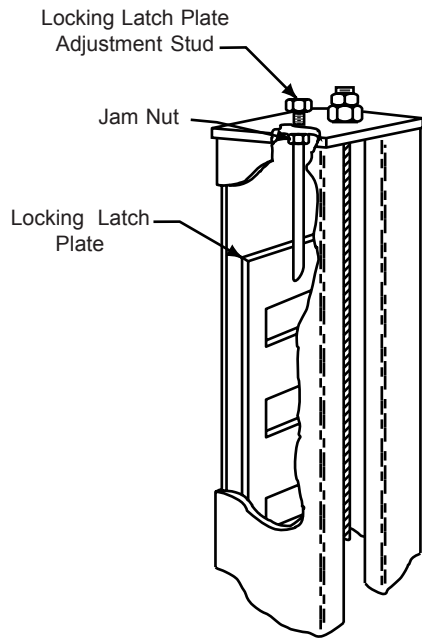

Fig. 32
- J. To complete the leveling procedures, lock each locking latch plate jam nut tightly against bottom of column top plate, Fig. 32.